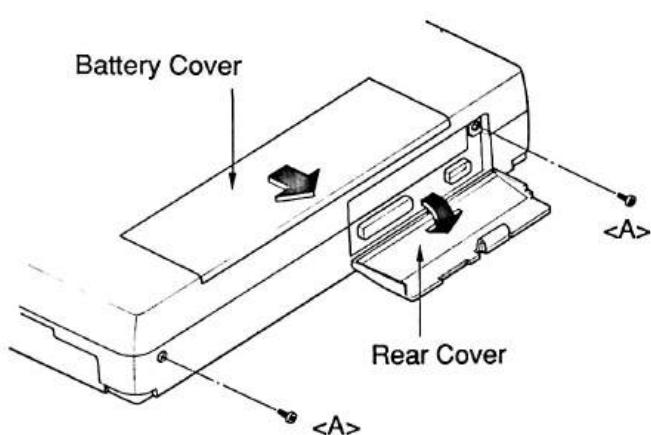

Figure 4
(7) Open the rear cover and remove two screws <A> ( $3\varnothing \times 8$ ) as shown in Figure 4.